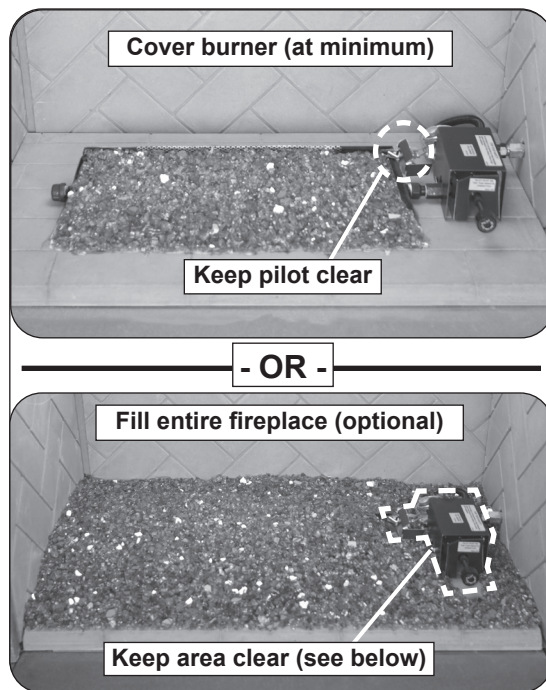

Fig. 22-1 Glass media placement
1. After the required sand/vermiculite and screen have been placed, pour the glass media (glass, gems) so that the burner pan is covered completely and evenly (see Fig. 22-1).
- DO NOT place any glass media directly on the pilot assembly, on or within the heatshield, or under a knob if one exists at the front of the valve (see Fig. 22-1 and Fig. 22-3).
2. Complete placement by pouring the remaining glass media on the floor of the fireplace, around the front, rear, and sides of the burner system (see Fig. 22-1).